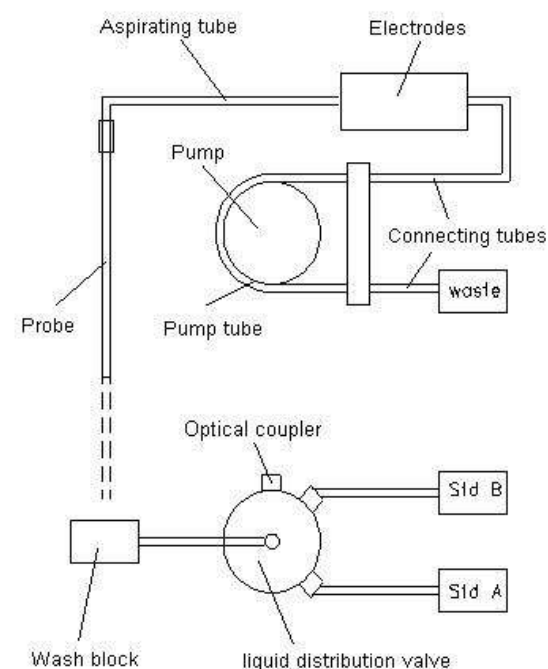
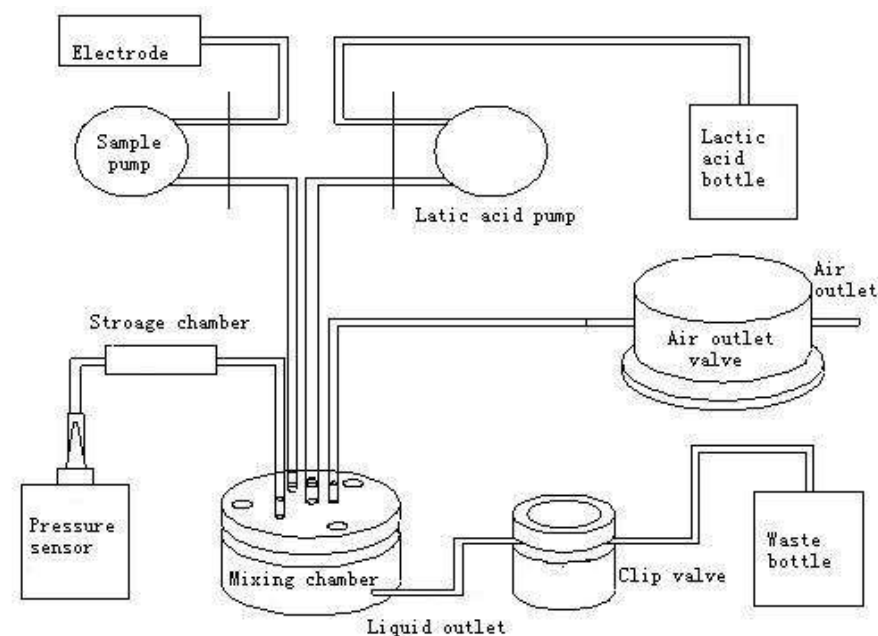

Figure 4
Figure 5
Connect the tubes according to figure 4. Figure 5 is the tube connection diagram for CO₂ reaction chamber (for HCO₃⁻)
4.7 Installation of the auto sampler (for auto sampler models only) According to figure 5.